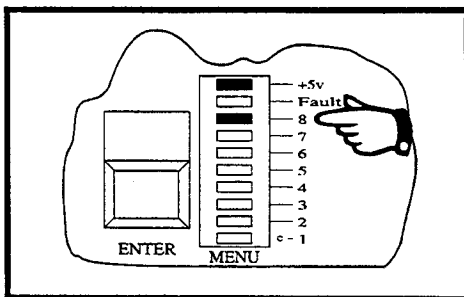

Figure 3-11
- (e) Press the blue **FUNCTION** key **ONCE**. The **Menu** display should cease scrolling and the segment labelled **1** should illuminate. Continue to press the **FUNCTION** key until the segment labelled **8** illuminates. This segment identifies the auto-zero threshold adjustment function. See Figure 3-11.